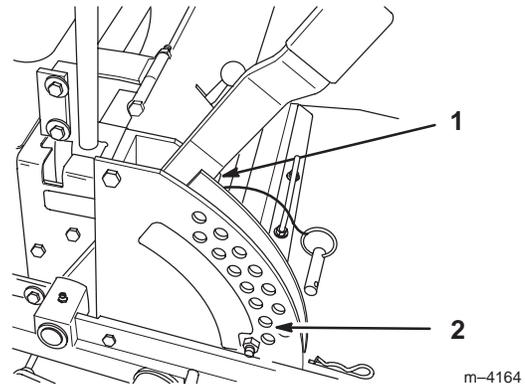

Figure 61
- Raise the deck to the transport position and take all force off of the two large deck lift springs by loosening nut in front of each spring (Fig. 61).
- Place two 1-1/2 inch (38 mm) thick blocks under rear left and right lower edge of mower. Place one 2-1/4 inch (57 mm) block under front center lower edge of mower. Lower mower to the 2 inch (51 mm) height-of-cut position (Fig. 61).
1. Raise deck lift lever to the transport position, (Fig. 61).